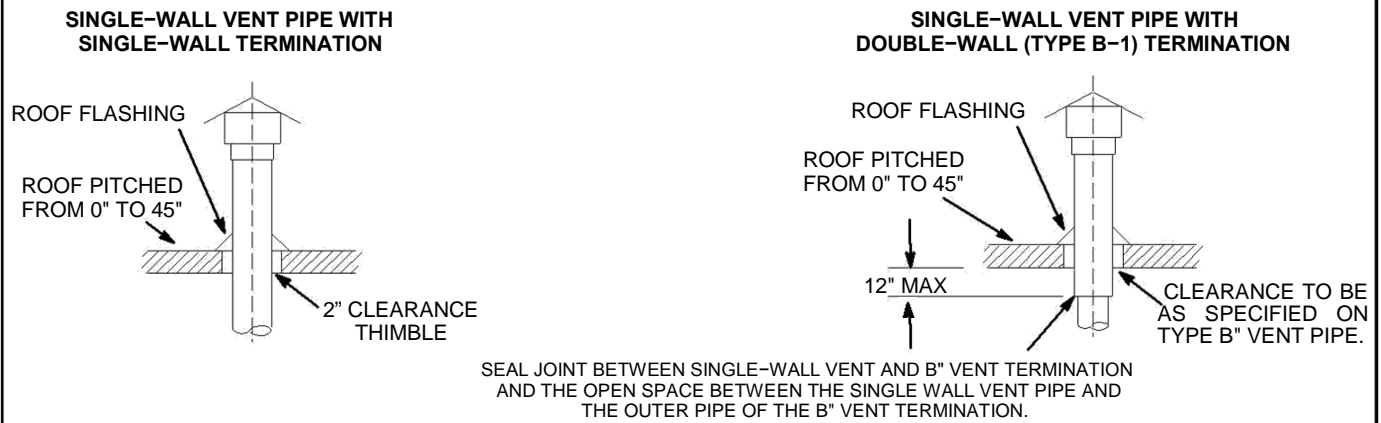

FIGURE 3
- 10 - For upward sloped vent, see figure 3, condensate tee and drain must be installed within the first 5 feet (1.53 m) from the duct heater to protect the appliance.